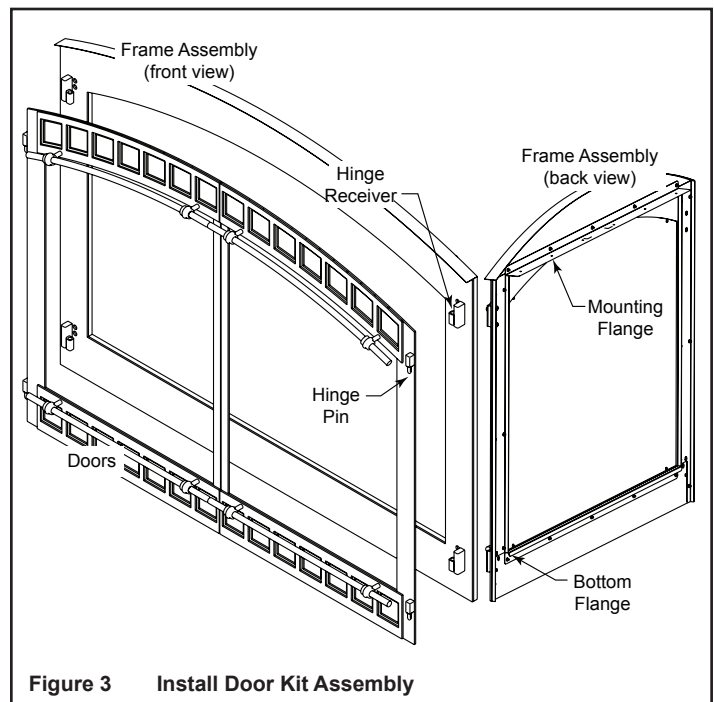

Figure 3 Install Door Kit Assembly
- D. Pick up the frame assembly and hook the bottom flange (Refer to Figure 3) over the bottom face of the fireplace. The flange should fit between the face and the hearth stone.
- G. Hang the doors on the frame assembly by positioning the hinge pins of the door in the mating hinge receivers (refer to Figure 3).